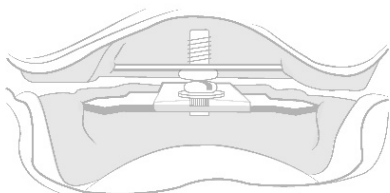

Fig. 4
14. To check the Gothic arch, the entire plate except for the crosshairs is painted again and the entire bite registration procedure is repeated. If the second Gothic arch is also positioned exactly on the crosshairs, the Plexiglas plate can be placed in the position of the tip of the arrow and fixed into place using the screw and washer (Fig. 4).